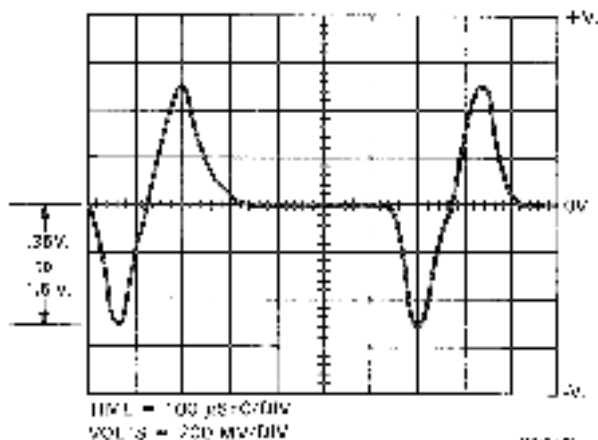

Figure 9-1 Sector Transducer Output
7. The signal displayed on the oscilloscope should be similar to that shown in Figure 9-1. The peak output of the negative portion of the waveform should be between 0.35Vp and 1.5Vp.